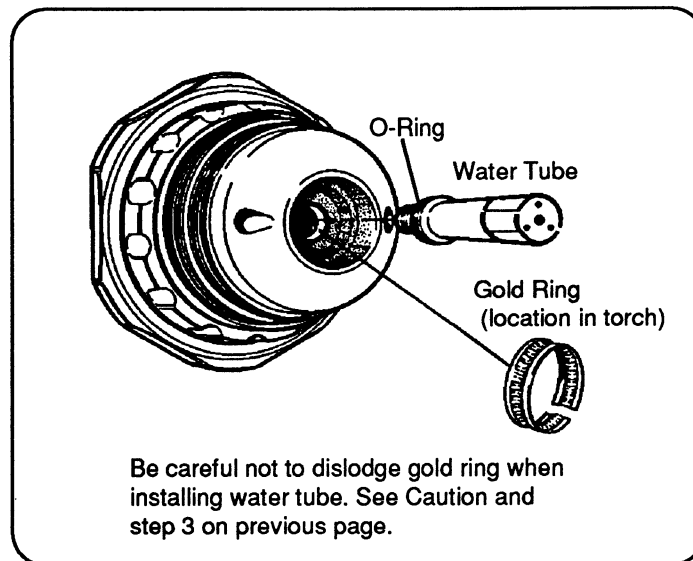

Figure 2 Install New Water Tube
3. After the water tube has been removed, clean the inside of the torch using low pressure compressed air or water. Carefully clean out the seat area of the water tube of any residue using a cotton swab. Be careful not to dislodge the gold band from the groove. If the gold ring gets dislodged, reinstall it by referring to Fig. 2.